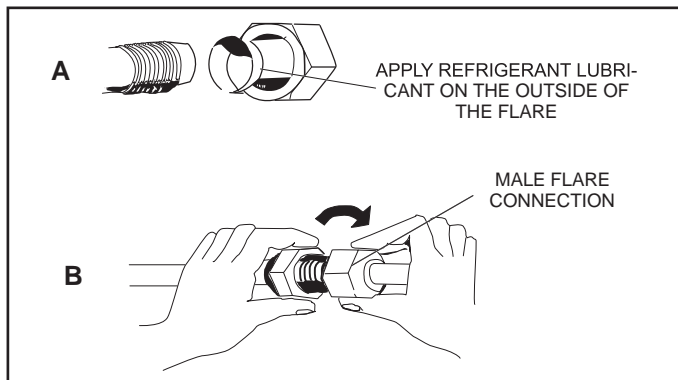

Figure 18. Making Connections (Male to Female Connection)
4. Apply recommended R-410A refrigerant lubricant to the outside of the flared refrigerant lines (Figure 18-A).
5. Align the threaded connections with the flared refrigerant lines. Tighten the flare nuts lightly at first to obtain a smooth match (Figure 18-B).